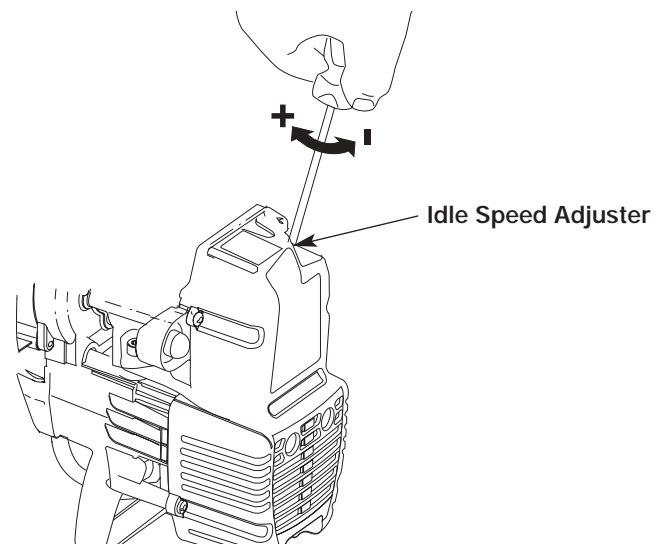

Fig. 17
2. Release the throttle control and let the engine idle. If the engine stops, insert a small phillips or flat blade screwdriver into the hole in the muffler cover (Fig. 17). Turn the idle speed screw **clockwise** 1/8 of a turn at a time (as needed) until the engine idles smoothly.
The engine's idle speed adjuster is adjustable through the air filter/muffler cover (Fig 17).